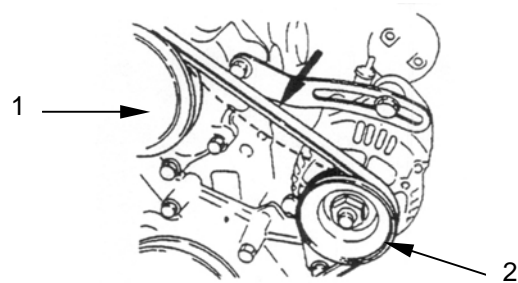

Figure 19. Fan belt tension
- i. Check the drive belt tension between the fan pulley (**figure 19, item 1**) and the generator pulley (**figure 19, item 2**). Ensure belt has ¼-inch deflection at the center between the two pulleys.